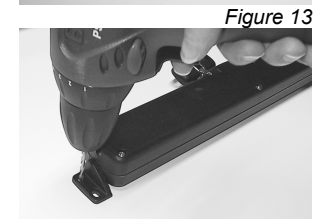

Figure 13
- Select the correct form of brackets (fig. 13).